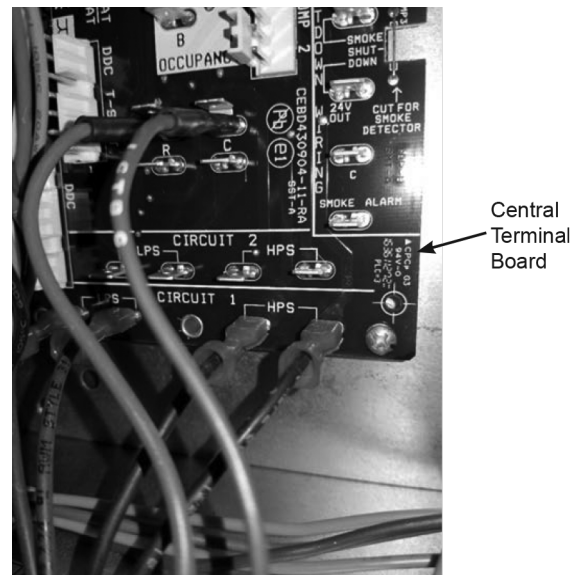

Fig. 12 — Connect Red and Brown Wires to Central Terminal Board
15. Connect the red and brown wires from the controller harness to the CTB. (See Fig. 12 and 25.) The red wire connects to “R” on the CTB, and the brown wire connects to “C”.